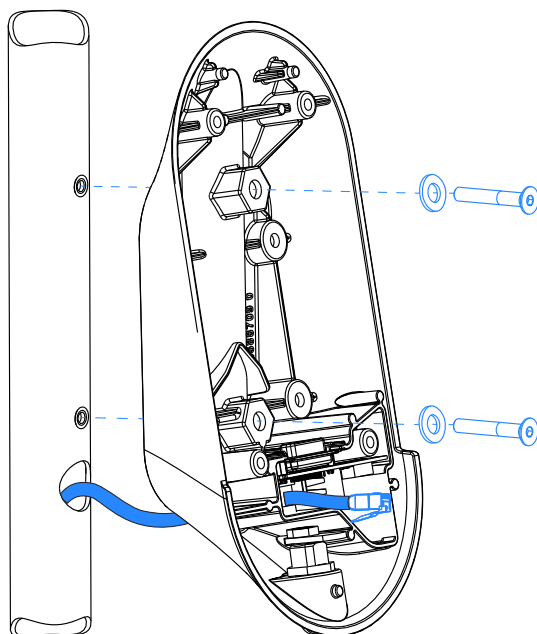

Figure 3-59 Fixing the assembly unit
Step 8 Attach the front part of the mounting unit to the rod with the two washers and the two countersunk screws (see **Figure 3-59**)